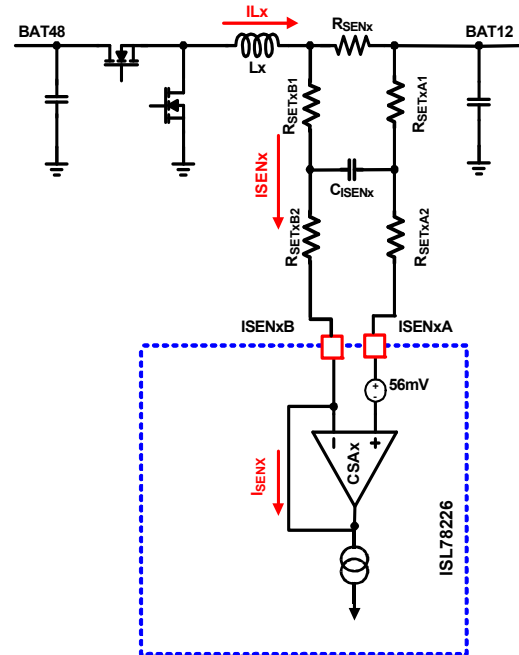

FIGURE 135. CURRENT-SENSING BLOCK DIAGRAM FOR INDIVIDUAL PHASE  $I_{SENx}$
The ISL78226 peak current control architecture senses the inductor current of each phase continuously for fast response. A sense resistor (shunt) is placed in-series with the power inductor for each phase. The ISL78226 Current-Sense Amplifiers (CSA) continuously sense the respective inductor current (as shown in Figure 135) by sensing the voltage signal across the sense resistor  $R_{SENx}$  (where "x" indicates the specific phase number and same note applied throughout this document). The sensed current for each active phase will be used for peak current mode control loop, phase current balance, individual phase cycle-by-cycle peak current limiting (OC1), individual phase overcurrent fault protection (OC2), averaged Constant Current Limit (CCL) control, Average Overcurrent Protection (AOCP), Diode Emulation (DE), and Phase Drop/Add control. The internal circuitry shown in Figure 135 represents a single phase and is repeated for each phase.
The RC network between  $R_{SENx}$  and ISENxA/ISENB pins as shown in Figure 135 is the recommended configuration. The current gain setting resistor,  $R_{SETxB}$ , is  $R_{SETxB1}$  plus  $R_{SETxB2}$  in Figure 135 and that sum should be fixed at 1k $\Omega$ .
It is also recommended to have  $R_{SETxA} = R_{SETxB}$  and all four resistors as equal in value as standard values allow. Insert a capacitor,  $C_{SENx}$ , between them as shown in Figure 135. This will form a symmetric noise filter for the small current-sense signals. The differential filtering time constant equals  $(R_{SETxA1} + R_{BIASxB1}) \cdot C_{SENx}$ . This time constant is typically selected in the range of tens of ns depending on the actual noise levels.